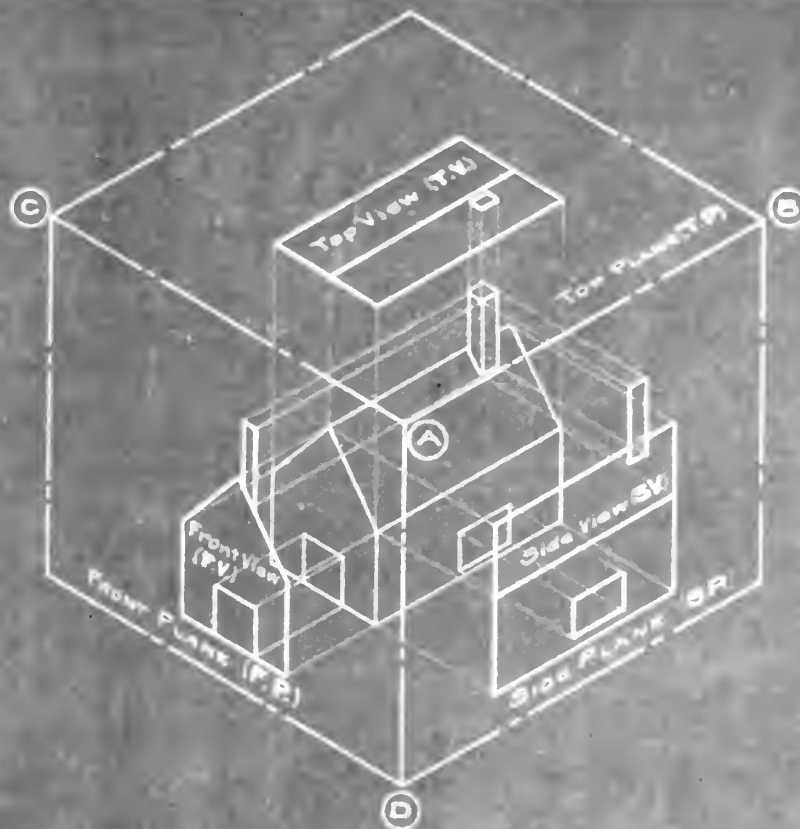

Fig. 1
1. Consider object surrounded by Three Planes, **F.P.**, **S.P.**, and **T.P.** as shown (Fig. 1). These planes are called **PLANES OF PROJECTION**.
3. The intersection of these rays and their respective planes will trace Three Views, **F.V.**, **S.V.**, & **T.V.** as shown (Fig. 1).